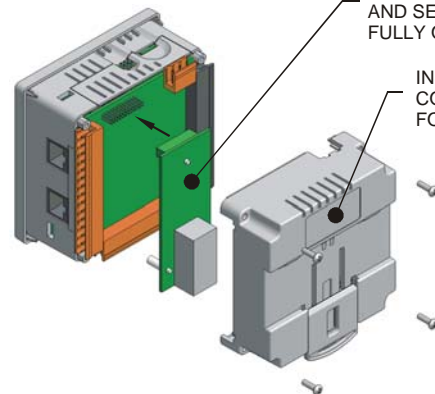

Figure 2- Installing the COM Board in the XLE
4. Plug the communication board onto the 24-pin connector. Make sure all the pins are properly aligned (Figure 2).
6. Place the screw back into the hole and turn the screw slowly counter clockwise until it clicks into the threads. This prevents the screw from being cross-threaded. Now, turn the screw clock-wise until the cover is firmly secured. Repeat this process for all four (4) screws.